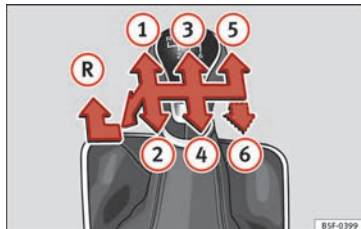

Fig. 56 Gear shift pattern of a 5 or 6-speed manual gearbox.
The position of the gears is indicated on the gearbox lever »» **Fig. 56**.
- With the gearbox lever in neutral, push it downwards, move it to the left as far as it will go and then forwards to select reverse »» **Fig. 56** .